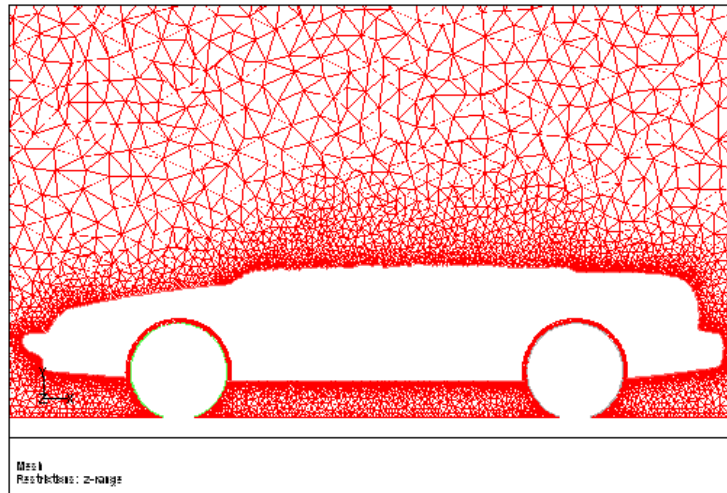

Figure 2.7: Slide of Cells at $Z = 0.38$
- Display the mesh on a slide through the wheels ($z = 0.38$). See Figure 2.7.